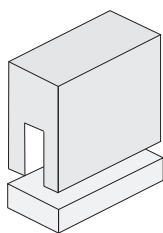

Figure 1
Step 4 Fit a suitable cutter to the router and set guide. Machine a 15mm wide by 35mm deep groove along the bottom of the door. See Figure 1.